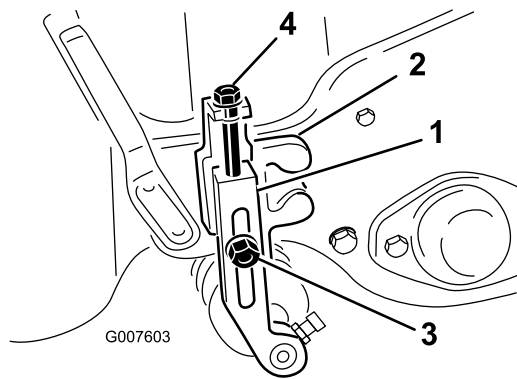

Figure 41
2. Loosen the locknuts securing the height-of-cut arms to the height-of-cut brackets (Figure 41).